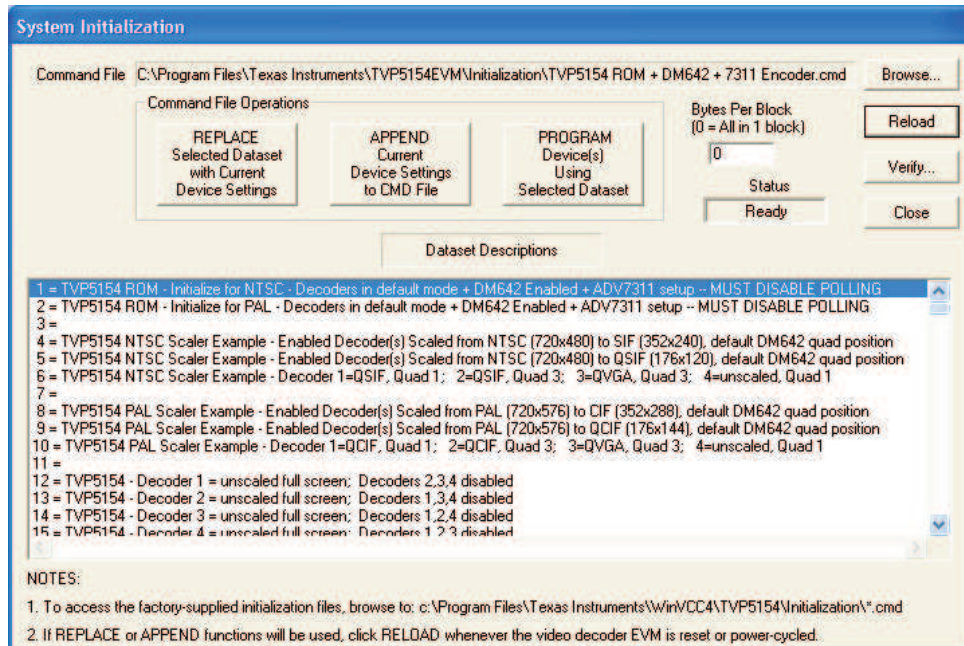

Figure 5. WinVCC – System Initialization
- In the System Initialization window (see Figure 5), click "TVP5154 ROM – Initialize for NTSC . . ." or "TVP5154 ROM – Initialize for PAL . . ." dataset in the window, and then click "PROGRAM Device(s) Using Selected Dataset" to initialize the TVP5154EVM.